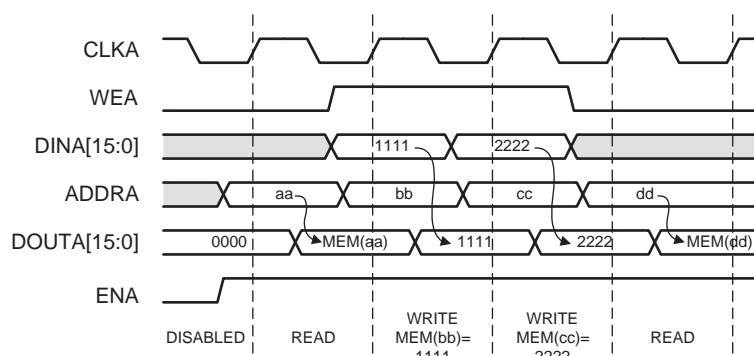

Figure 26: Write First Mode Example
- **Write First Mode:** In WRITE_FIRST mode, the input data is simultaneously written into memory and driven on the data output, as shown in Figure 26. This transparent mode offers the flexibility of using the data output bus during a Write operation on the same port.